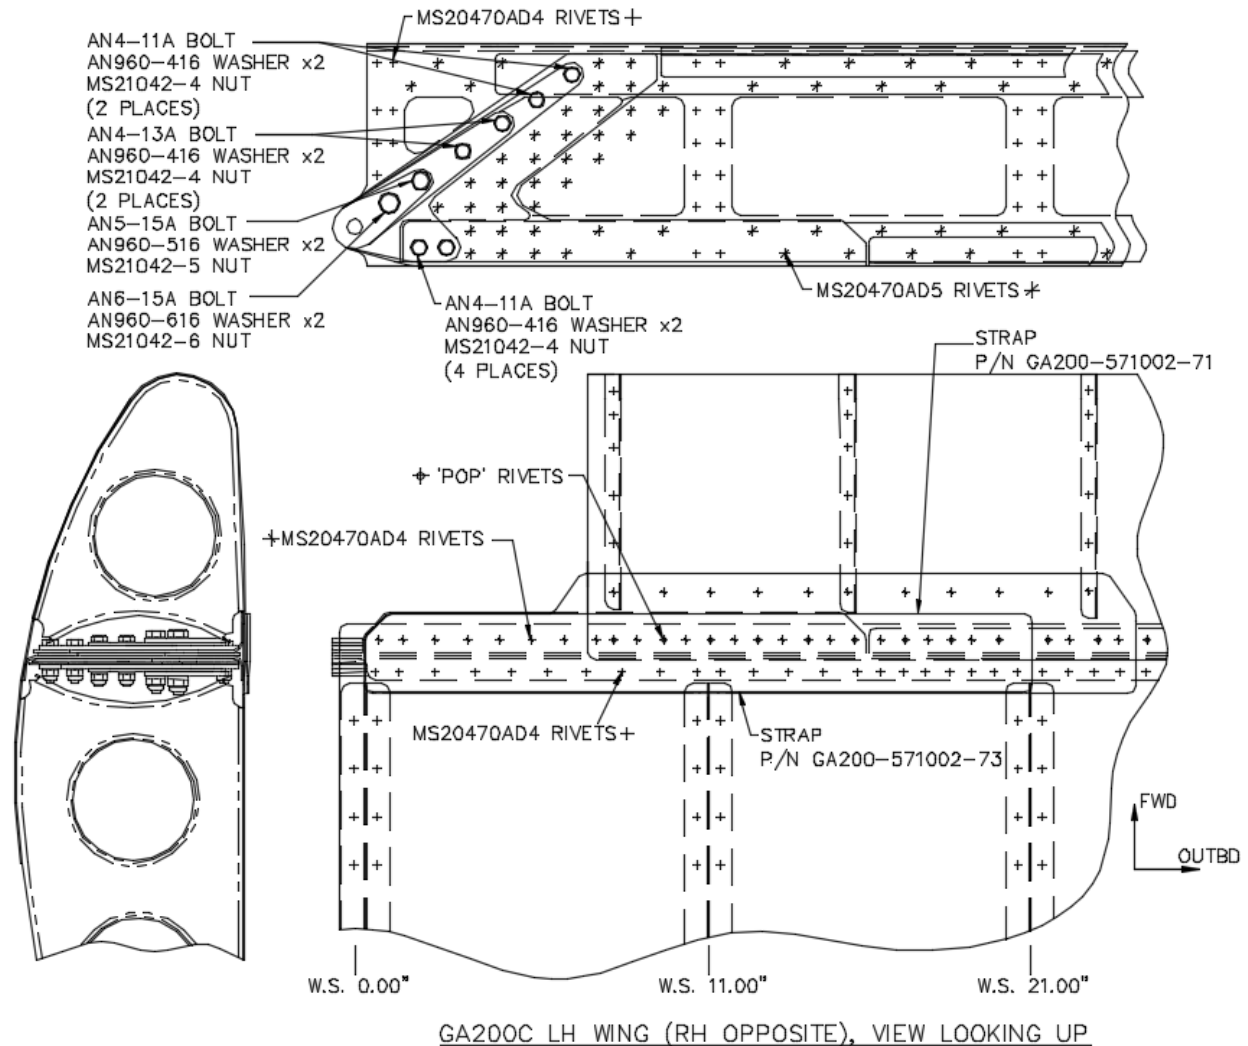

Figure 10 – Fastener Types and Locations
1. Assemble Front Spar Assembly using parts removed in Part B, or serviceable equivalents. Factory fit fastener types are noted in Figure 10.
If fastener types noted during disassembly are different to those shown in Figure 10, consult the design approval holder that installed and/or approved the different fasteners.